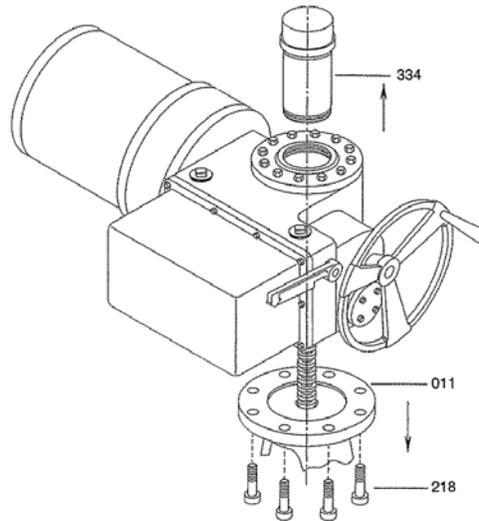

Figure 10
Although various types of electric motor actuators (Fig. 10) are supplied, all follow the same pattern with their removal from the valve. Prior to the removal, all power and control wiring should be disconnected from the actuator. With the stem protector (334) and capscrews (218) removed, and the actuator properly supported, it can be raised in the same manner as the gear unit.